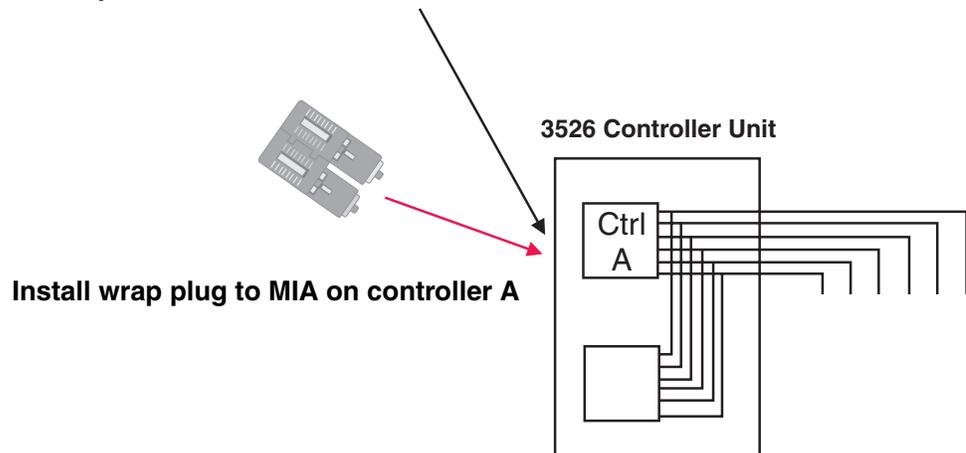

Figure 120. Install Wrap Plug to MIA on Controller A
- a. For a Type 3526 RAID controller, install a wrap plug to the MIA on controller A. See Figure 120.